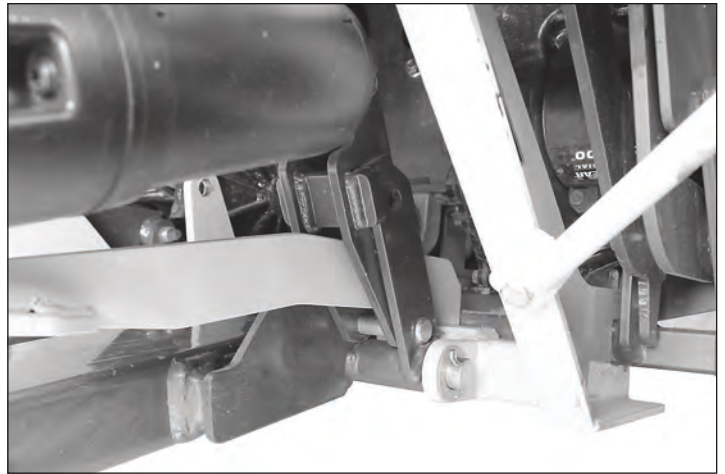

Figure 3.3
- **Floating:** Remove the bowtie cotter pin, and remove the clevis pin from the rear actuator mount (figure 3.3). Removing the clevis pin will allow for a free floating hitch.